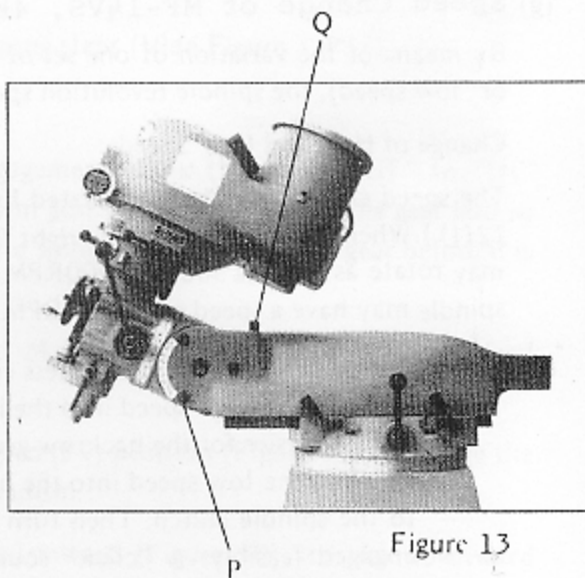
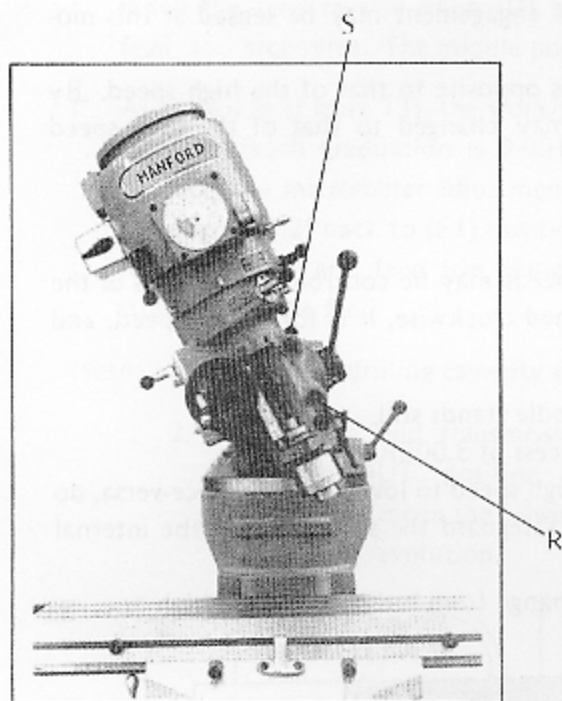

Figure 13
Figure 14
In-and-Out Tilting (Figure 13):
Cross Tilting (Figure 14):
Note: To align the verticality of spindle to the table surface, it is necessary to loosen the three machine head bolts (Vide Figure 13(P), P. 12) and the four machine head nuts (Vide Figure 14(R), P. 12). However, the bolts and nuts can not be loosened totally to prevent the components from a sudden tilting. Lock up (P) and (R) as soon as the alignment is performed.